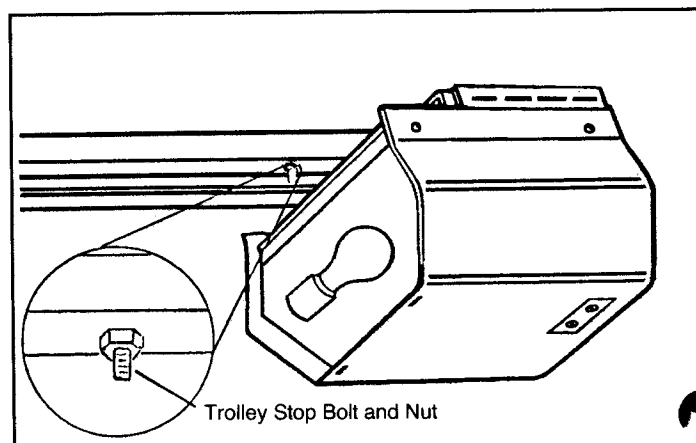

Figure 4
Step 5: Install a 40 watt bulb, appliance type recommended (see Figure 4).